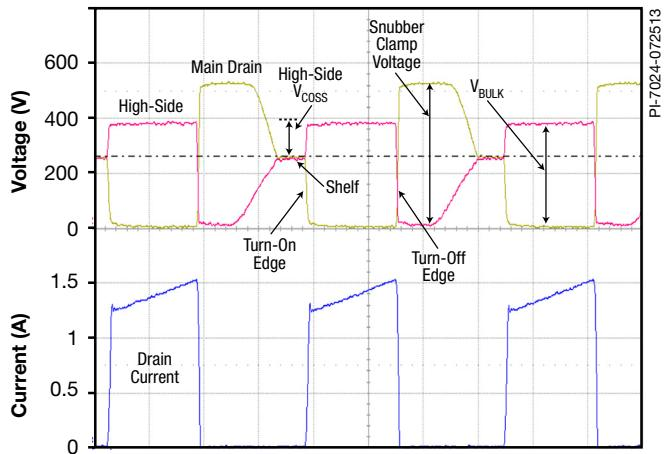

Figure 28. Typical Full Load Waveforms of the Main Dian. High-Side MOSFET Source, and Drain Current.
Repeat the measurements at full load. Be cautious of over-heating the power supply and use a strong fan. Measure the source voltage (HS) of the high-side MOSFET at turn-on for each steady-state switch cycle (Figure 28). It should be  $< 40\%$  of the bulk voltage. Calculate and verify the  $K_p$  from the current waveform and verify with the spreadsheet. Also check the peak current at peak load – do not dwell at peak load for more than several seconds to prevent over-heating.